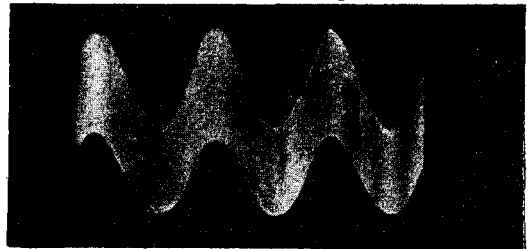

Figure 6-1. Waveform at AUDIO OUT Jack with AUDIO SELECTOR at VOR
- a. VOR. Appears as a wide sine wave band at 30 cps. See figure 6-1.